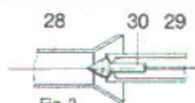
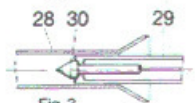

Fig. 2
Fig. 3
This chamber consists of two valve nipples (22), valves (32), outer casing (27) and the valve closing gear (24-31). Operation as follows: The lower valve (32) is joined to the shaft (30) the spearhead of which is gripped by the collet chuck (29) when the valve is open (Fig. 2). The upper valve (32 a) is joined to the shaft (24), the guides (25) and the sleeve (28). When the upper valve is opened, the sleeve slides over and locks the collet chuck (29) (Fig. 3) and holds the lower valve open as long as it is itself open. The springs (19) are only powerful enough to assure a positive valve closure, if the pressure inside and outside the sample chamber is the same. When pulling out of the well, pressure on the outside of the sampler decreases, so that the higher pressure inside the sampler chamber then acts on the valves cross section keeping them tightly closed. The combination of springs and internal pressure is such that loss of fluid or gas from the sampler is only possible, if for some reason the external pressure exceeds the internal. In those rare cases, however, a positive lock assembly is available and should be employed.